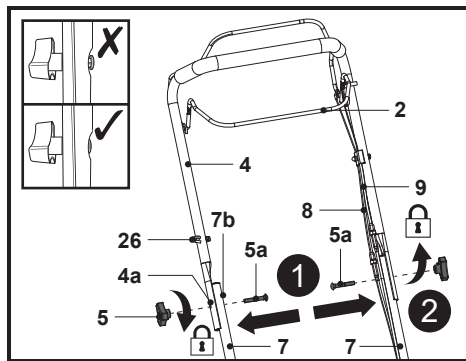

Fig. 2
1. Align the mounting holes of the upper handle bar (4) and the two lower handle bars (7). Ensure that the upper handle bar (4) with the brake lever (2) facing upwards.
2. Pass one mounting bolt (M8*43) (5a) through the mounting holes (7b, 4a) of the lower handle bar (7) and the upper handle bar (4) until the stop (Fig. 2, step 1), then attach the lock knob (5).
3. Secure the handle assembly by screwing in the lock knob (5) clockwise on the thread of the mounting bolt (M8*43) (5a) (Fig. 2, step 2).